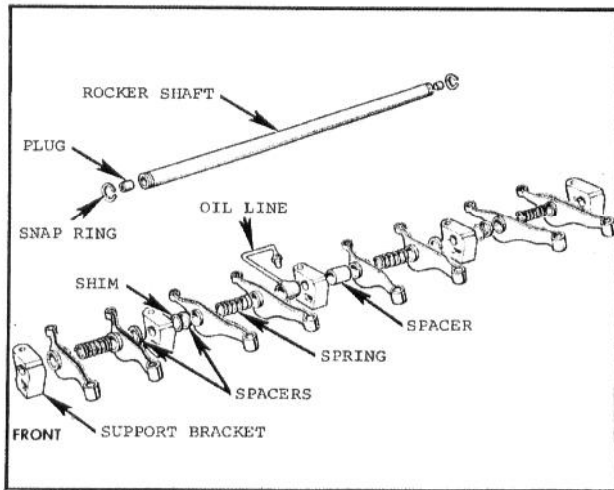

Fig. 1 — Rocker Arm Shaft Assembly Disassembled
1. Install all parts in their correct sequence as shown in Fig. 1. (Rocker arms are right and left-handed.)